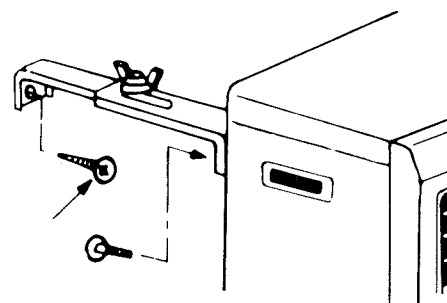

Fig. 17
13. After installation is completed, secure heater to the wall with the wall brackets provided with the heater. Make sure the heater is parallel to the wall (See Fig. 17).